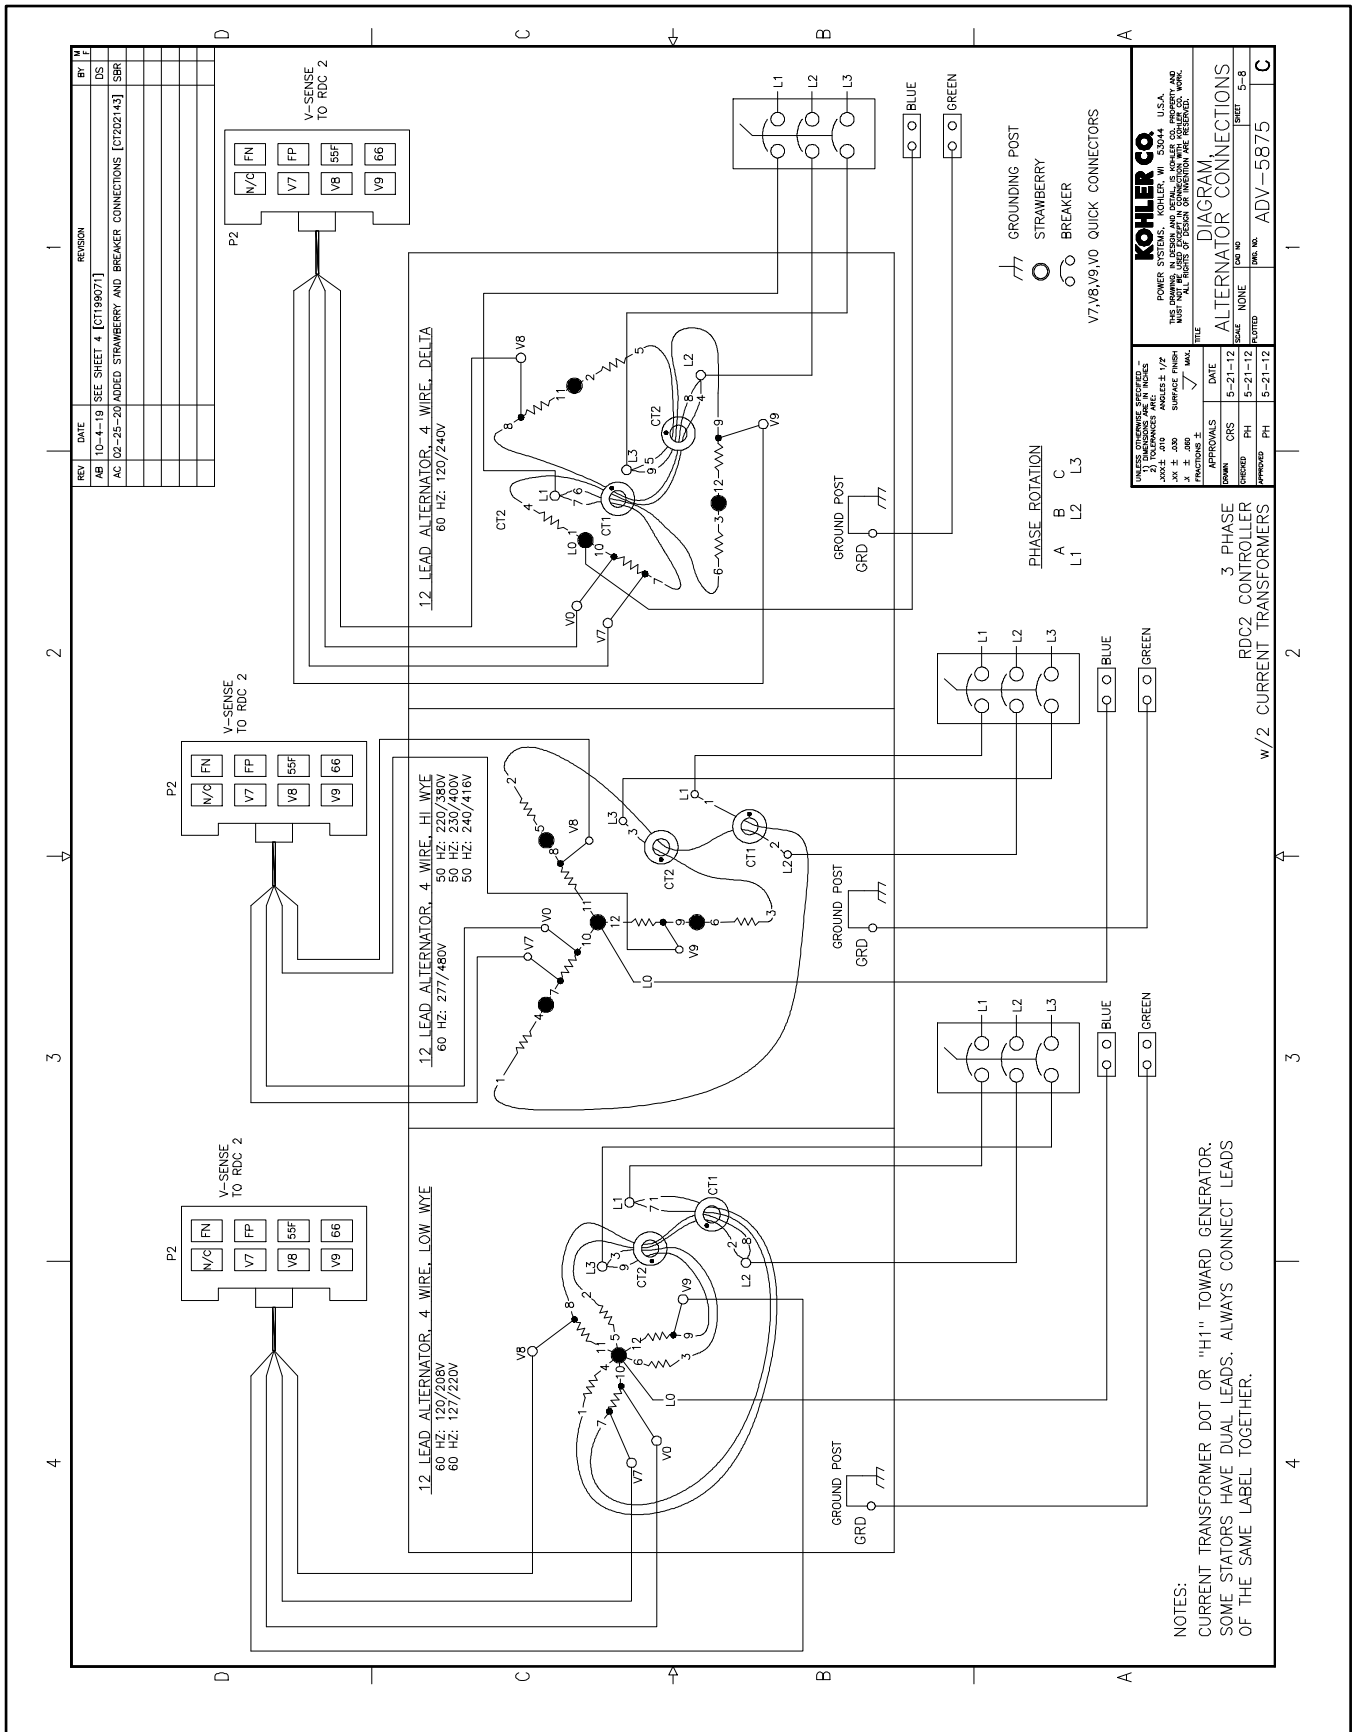
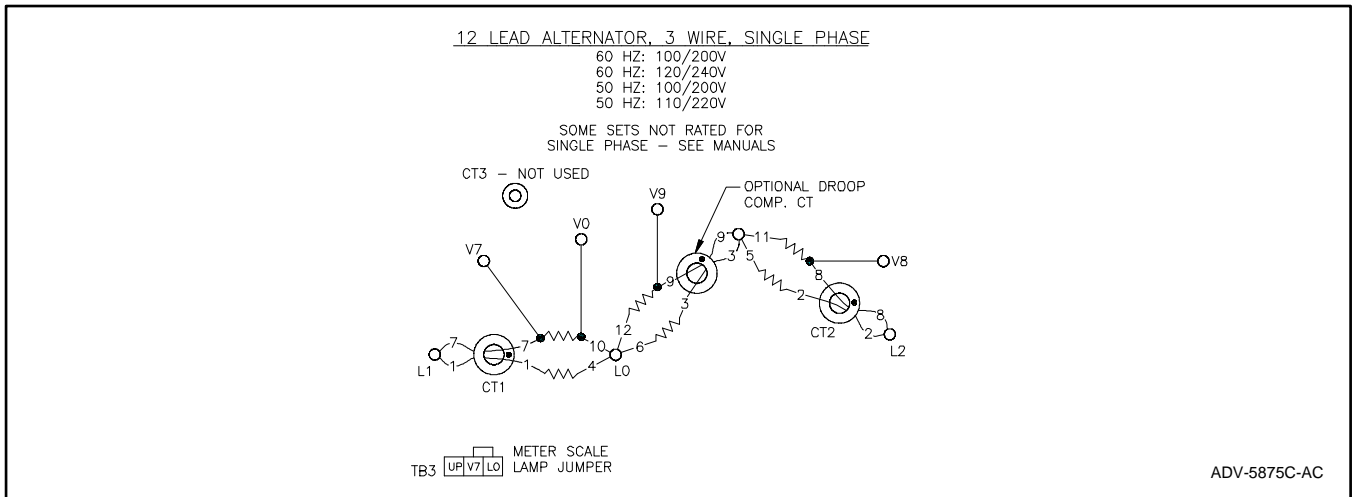

Figure 37 12-Lead Generator Reconnection, 1 of 2
Figure 38 12-Lead Generator Reconnection, 2 of 2
Three-phase, 12-lead generator sets are reconnectable to the voltages and phases shown on the generator set specification sheet. See Figure 37 and Figure 38 for the applicable three-phase configurations and single-phase dogleg configuration. Use the following procedure to reconnect the generator to the desired voltage configuration, change the system voltage setting, and adjust the output voltage.
4. Select desired voltage connection. See Figure 38. Connect the leads according to the diagram for desired phase and voltage.